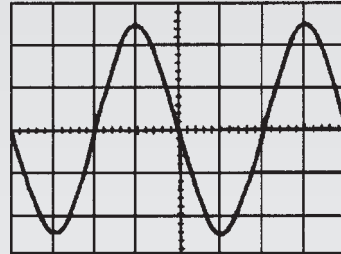

Figure RT3.1
- A conductor, 25 cm long is situated at right-angles to a magnetic field. Determine the strength of the magnetic field if a current of 12 A in the conductor produces a force on it of 4.5 N. (3)
- An electron in a television tube has a charge of 1.5×10^{-19} C and travels at 3×10^7 m/s perpendicular to a field of flux density $20 \mu\text{T}$. Calculate the force exerted on the electron in the field. (3)
- A lorry is travelling at 100 km/h. Assuming the vertical component of the earth's magnetic field is $40 \mu\text{T}$ and the back axle of the lorry is 1.98 m, find the e.m.f. generated in the axle due to motion. (4)
- An e.m.f. of 2.5 kV is induced in a coil when a current of 2 A collapses to zero in 5 ms. Calculate the inductance of the coil. (4)
- Two coils, *P* and *Q*, have a mutual inductance of 100 mH. If a current of 3 A in coil *P* is reversed in 20 ms, determine (a) the average e.m.f. induced in coil *Q*, and (b) the flux change linked with coil *Q* if it is wound with 200 turns. (5)
- A moving coil instrument gives a f.s.d. when the current is 50 mA and has a resistance of 40Ω . Determine the value of resistance required to enable the instrument to be used (a) as a 0–5 A ammeter, and (b) as a 0–200 V voltmeter. State the mode of connection in each case. (8)
- An amplifier has a gain of 20 dB. Its input power is 5 mW. Calculate its output power. (3)
- A sinusoidal voltage trace displayed on an oscilloscope is shown in Fig. RT3.1; the 'time/cm' switch is on 50 ms and the 'volts/cm' switch is on 2 V/cm. Determine for the waveform (a) the frequency (b) the peak-to-peak voltage (c) the amplitude (d) the r.m.s. value. (7)
- With reference to a p-n junction, briefly explain the following terms: (a) majority carriers (b) contact potential (c) depletion layer (d) forward bias (e) reverse bias. (10)
- Briefly describe each of the following, drawing their circuit diagram symbol and stating typical applications: (a) zener diode (b) silicon controlled rectifier (c) light emitting diode (d) varactor diode (e) Schottky diode. (20)